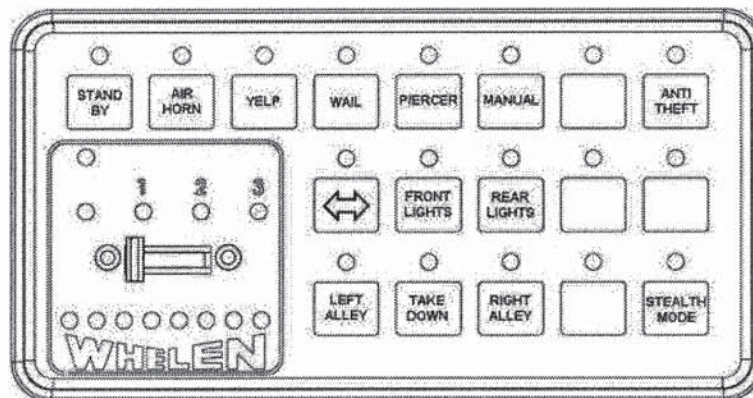

Figure 14 – Whelen – CenCom Sapphire Controller
- b. Whelen – CenCom Sapphire Siren and Light Controller, model CCSRN3 (see Figure 14 for configuration);